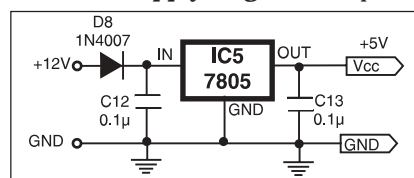

Fig. 2: Power supply
**Power supply (Fig. 2):** The power